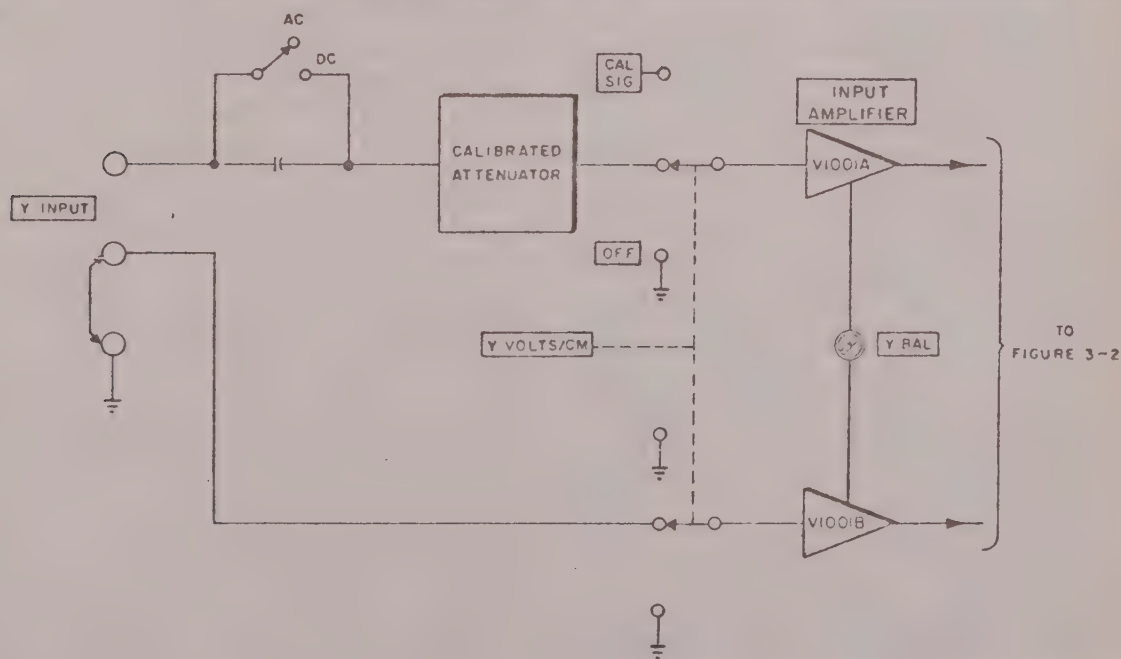

Figure 3-1. Y Input Circuit, Simplified Functional Block Diagram
- Figure 3-1. Y Input Circuit, Simplified Functional Block Diagram
a. Input Circuit (Figure 3-1)